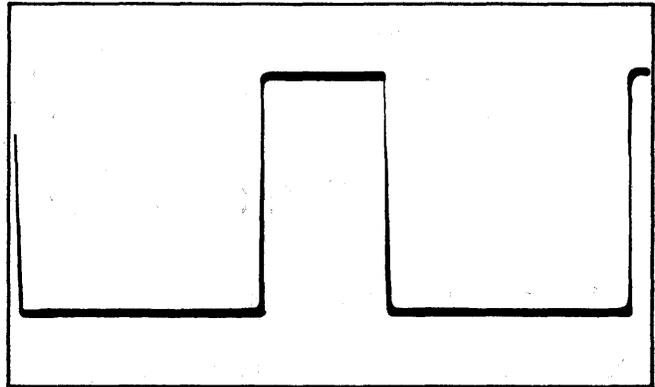

Figure 4-3. Write Current
4. Obtain the trace shown in figure 4-3. The peak-to-peak amplitude must be $3.9V \pm 0.1V$. Adjust R25 on the Read/Write board as necessary.